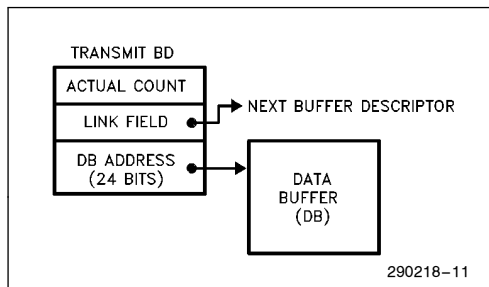

Figure 11. Data Buffer Descriptor and Data Buffer Structure
A single Transmit command contains, as part of the command-specific parameters, the destination address and length field of the transmitted frame and a pointer to buffer area in memory containing the data portion of the frame. The data field is contained in a memory data structure consisting of a buffer descriptor (BD) and a data buffer—or a linked list of buffer descriptors and buffers—as shown in Figure 11.